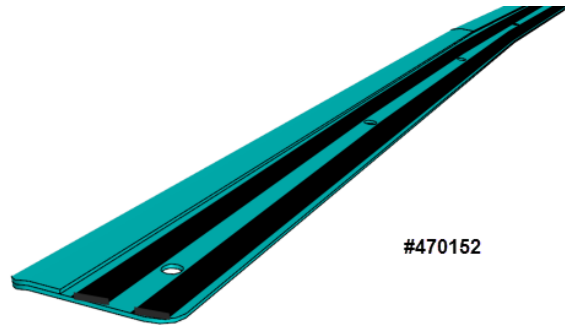

FIGURE 47
7. Apply two strips of double face self-adhesive tape along drip edge #470252 from one end up to the other end. The strips should be placed on each side of the drilled holes (FIGURE 47).